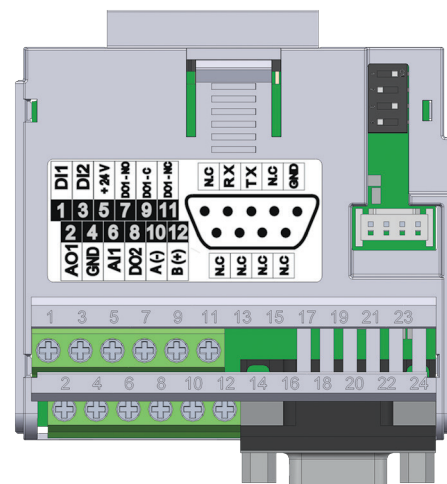

Figure 19.2: Plug-in module MW500-CRS232
The MW500-CRS232 plug-in module has Serial (1) interface through RS-485 port at terminals 10 (A-) and 12 (B+), as well as the Serial (2) interface through RS-232 port at standard connector DB9, see Figure 19.2 on page 17-2.